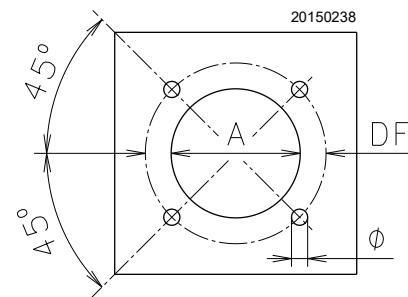

Fig. 13
Drill the combustion chamber locking plate as shown in Fig. 13. The position of the threaded holes can be marked using the thermal screen supplied with the burner.
- Fit the entire burner onto the boiler hole prepared previously (Fig. 13), and fasten with the screws supplied.